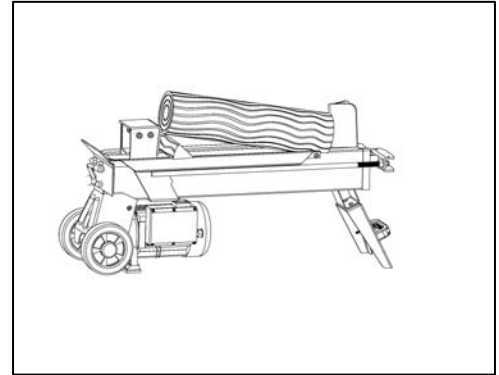

Figure 4
- Repeat above procedure with a sharper sloped wedge until the log is completely freed. (see figure 4)